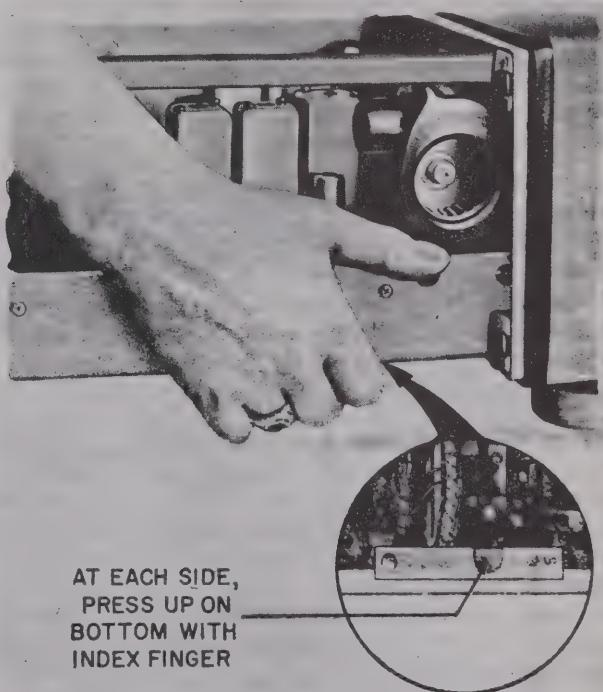

Figure 3-2. Removing Chassis from Cabinet
a. REMOVAL OF CHASSIS.—The chassis should be removed from the cabinet, prior to using the equipment, in order to inspect the receiver, reinstall rectifier V301, and check the power transformer connections. To remove the chassis from the cabinet, loosen the four fasteners in the extreme corners of the front panel by giving each a quarter-turn to the left. Pull the chassis forward until the spring-actuated stops on the bottoms of the side rails prevent further travel; then release these stops (one on each side) by pressing them upward and pull the chassis completely out of the cabinet; see figure 3-2.